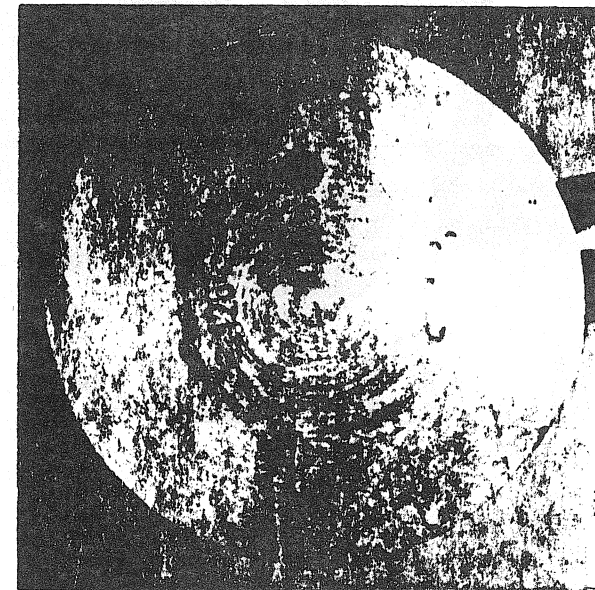

FIGURE 33
**WARNING:** On the piston you will find a mark "AUS" and an arrow. When reassembling, this mark must face the exhaust side. Also the exhaust ports must be in line with each other (fig. 33).